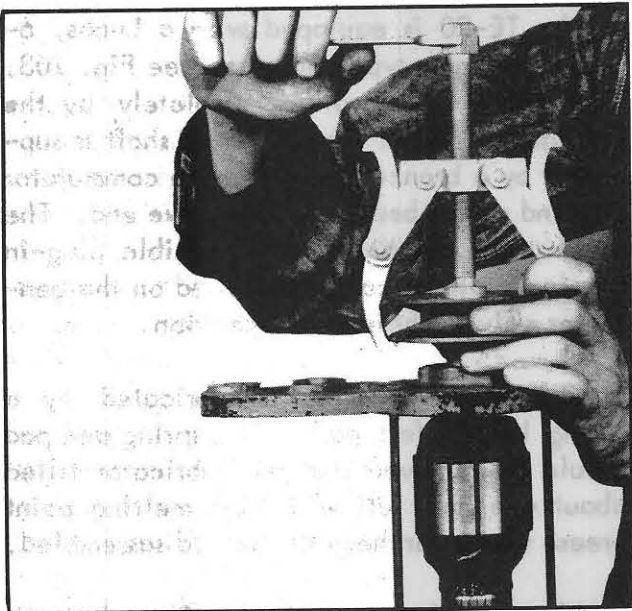

Fig. 204
3. Carefully clamp the armature shaft in a soft-jawed vise and remove the drive pulley. It may be necessary to use a small puller to remove the drive pulley as shown in Fig. 204.